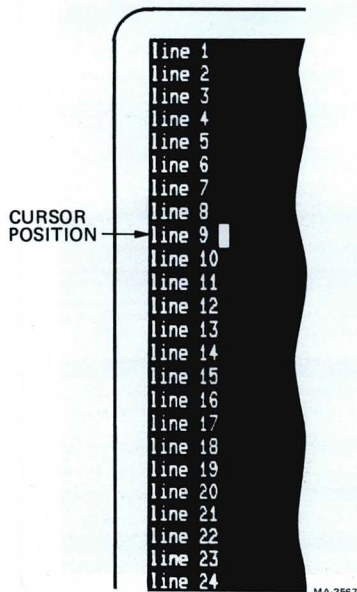

Figure 1-17 Cursor Positioned to Delete a Line from the Screen
1. Place the cursor on the line to be deleted (Figure 1-17).